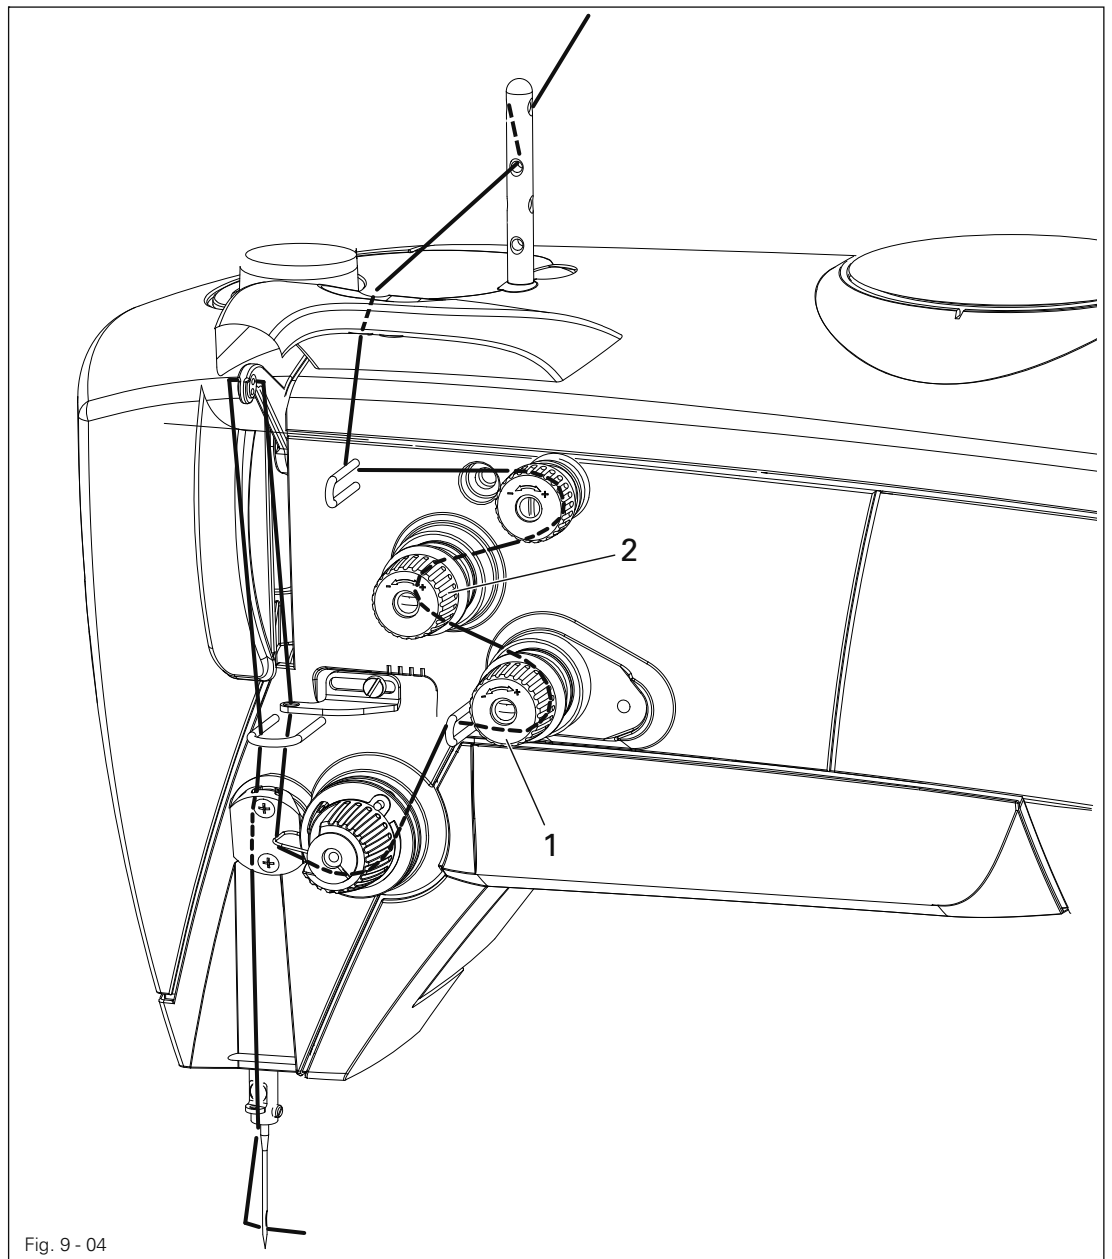

Fig. 9 - 04
- Thread the machine as shown in Fig. 9 - 04.